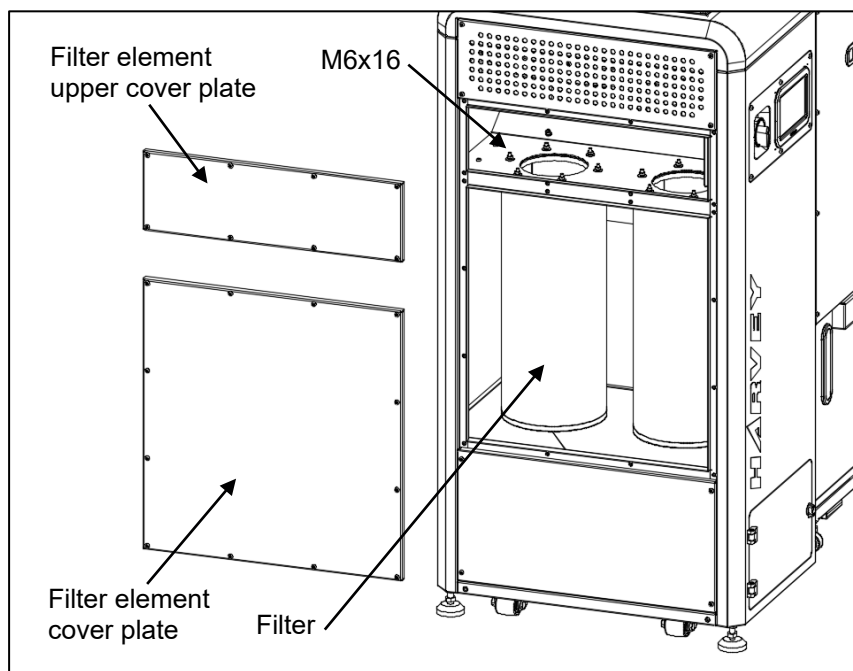

Fig. 17
6.3 Cleaning or Replacing the Filters *(Fig.17)*
2. If additional cleaning is required, turn the locking knob, unscrew and remove the filters, and use compressed air to clean the dust on the filter's exterior (**Fig. 17**).